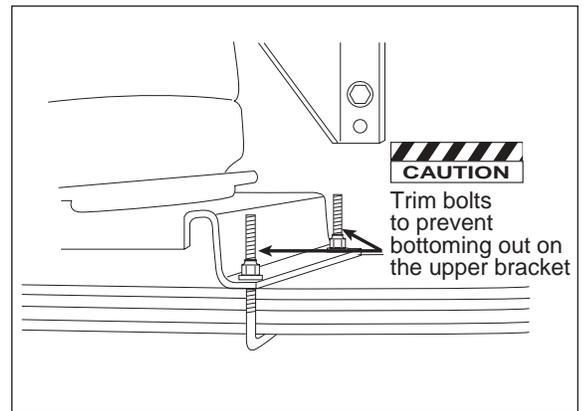

Figure 13
2. Depending on the thickness of the leaf spring stack, it may be necessary to trim the U-Bolts (Figure 13).